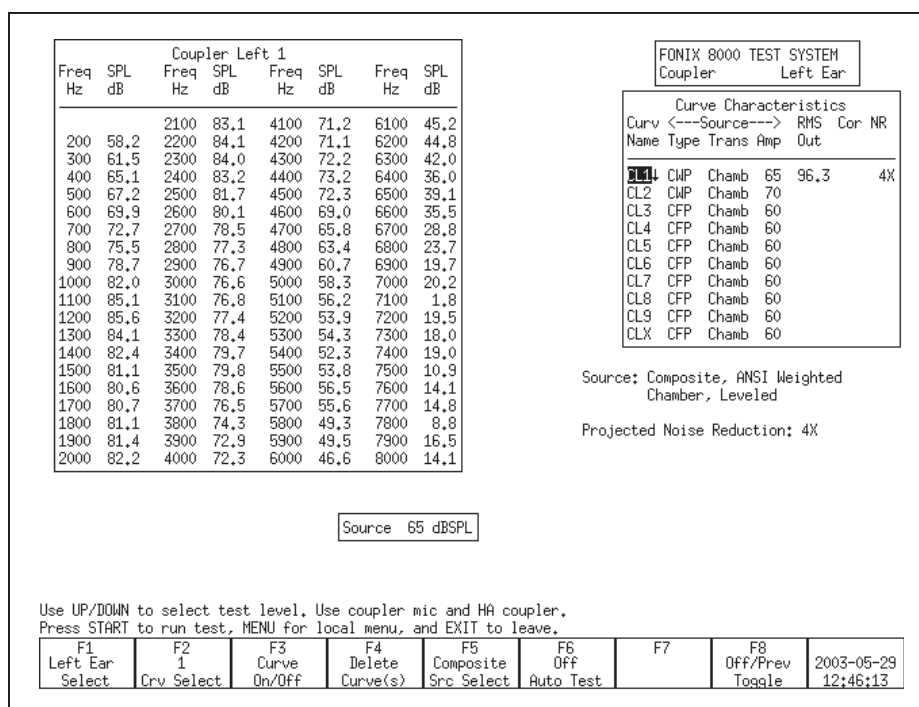

Figure 2.5.2 —Data display of a composite measurement
5. Use [F2] to select the curve that you want to show. See Figure 2.5.2 for an example of the data display of a composite curve.